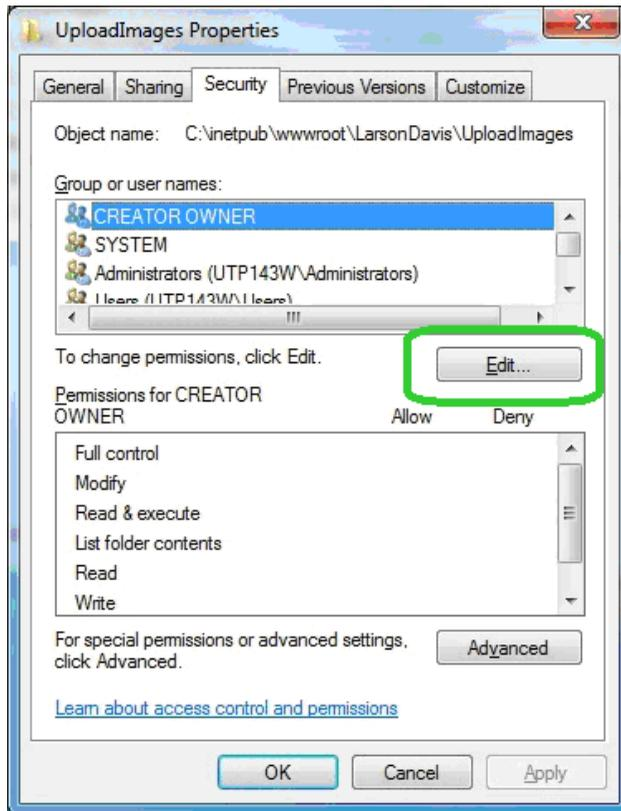

FIGURE 2-25 UploadImages Properties - Security
Step 23 Click **Edit...**, as shown in FIGURE 2-25.